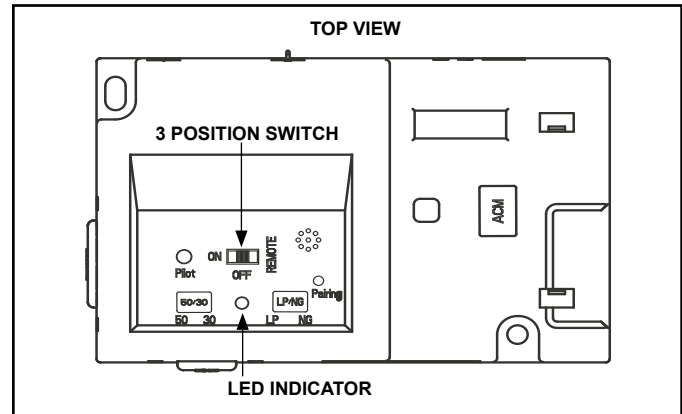

Figure 3.9 IFT-ECM
1. The Electronic Control Module (IFT-ECM) has a three-position ON/OFF/REMOTE selector switch that must be set for proper operation. See Figure 3.9. When changing switch positions, it is important to pause in each position for 1-2 seconds.